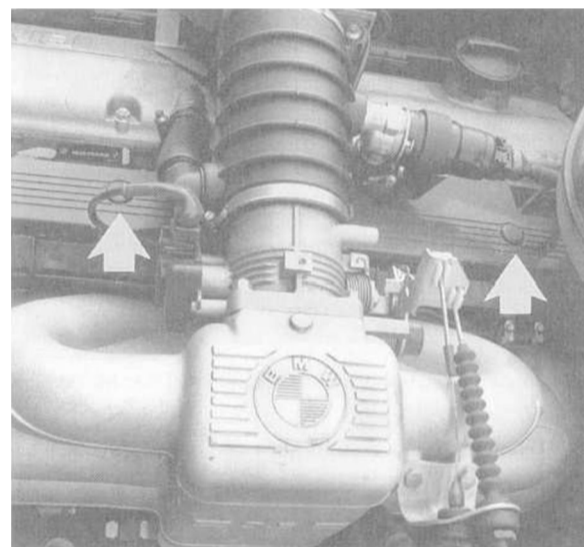

Fig. 20. Injector wiring duct retaining screws on M30 engine (arrows). Pry off caps to access alien screws.
3. Remove the screws from the injector wiring duct and remove the duct from above the injectors. See Fig. 20.
4. Remove the fuel rail mounting bolts (3).